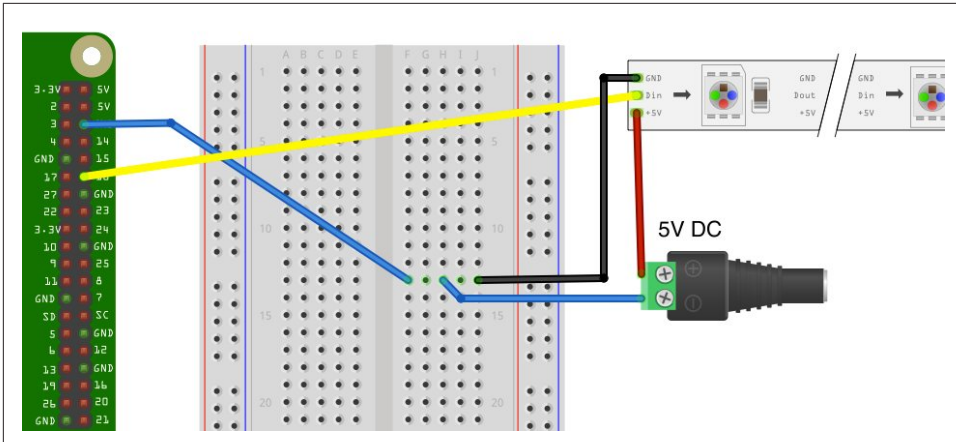

Figure 14-10. Powering an LED strip with an external power supply
Each LED in the strip can use a maximum of about 60mA. It will only do this if all three color channels (red, green, and blue) are at maximum brightness (255). So, if you plan to use a lot of LEDs, then you will need to use a separate 5V power supply sufficient to supply all the LEDs in your strip. **Figure 14-10** shows how you would wire up a separate power supply. A female DC jack-to-screw terminal adapter (“**Prototyping Equipment**” on page 474) makes it easy to connect an external power supply to a breadboard.